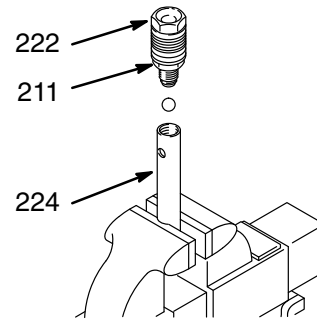

Fig. 20
6. Clamp the piston rod (224) in a vise. Loosen the retaining nut (211). Unscrew the piston valve (222). See Fig. 20.